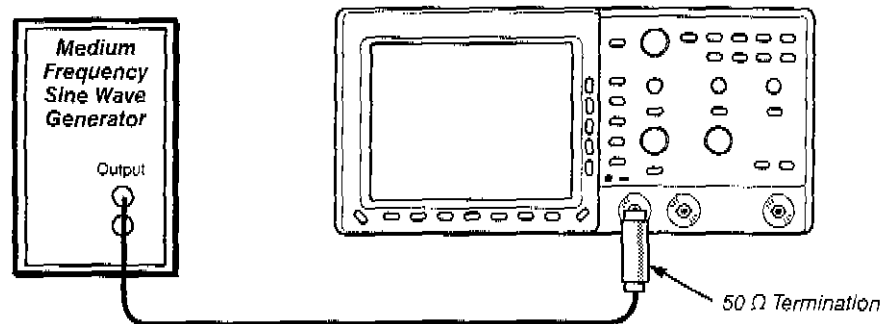

Figure 6-5: Hookup for Analog Bandwidth Check
1. Connect, through a 50 Ω precision cable and a 50 Ω termination, the sine wave output of a medium-frequency leveled sine wave generator to **CH 1** (see Figure 6-5). Set the output of the generator to a reference frequency of 50 kHz.